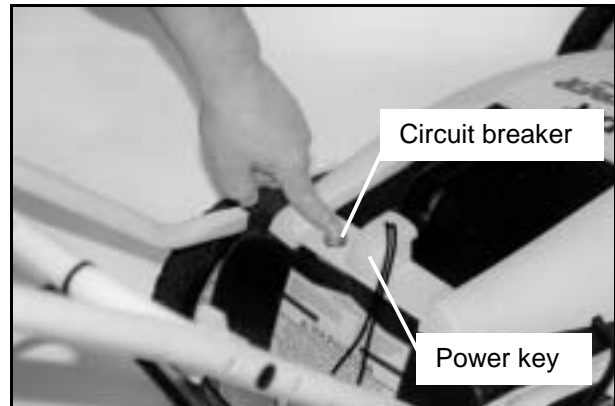

Figure 12
A circuit breaker is located to the left of the power key on top of the mower. This breaker may trip when cutting heavy or thick grass, or when a wire short-circuits. You know the circuit breaker has tripped if the mower will not run and the white circuit breaker reset button is projecting up into the transparent rubber boot. If this happens, reset the breaker by depressing the reset button (*Figure 12*). If the circuit breaker does not reset or if it trips repeatedly under normal cutting conditions, call one of our Customer Service Representatives **TOLL-FREE 1(800) DR-OWNER(376-9637)**.